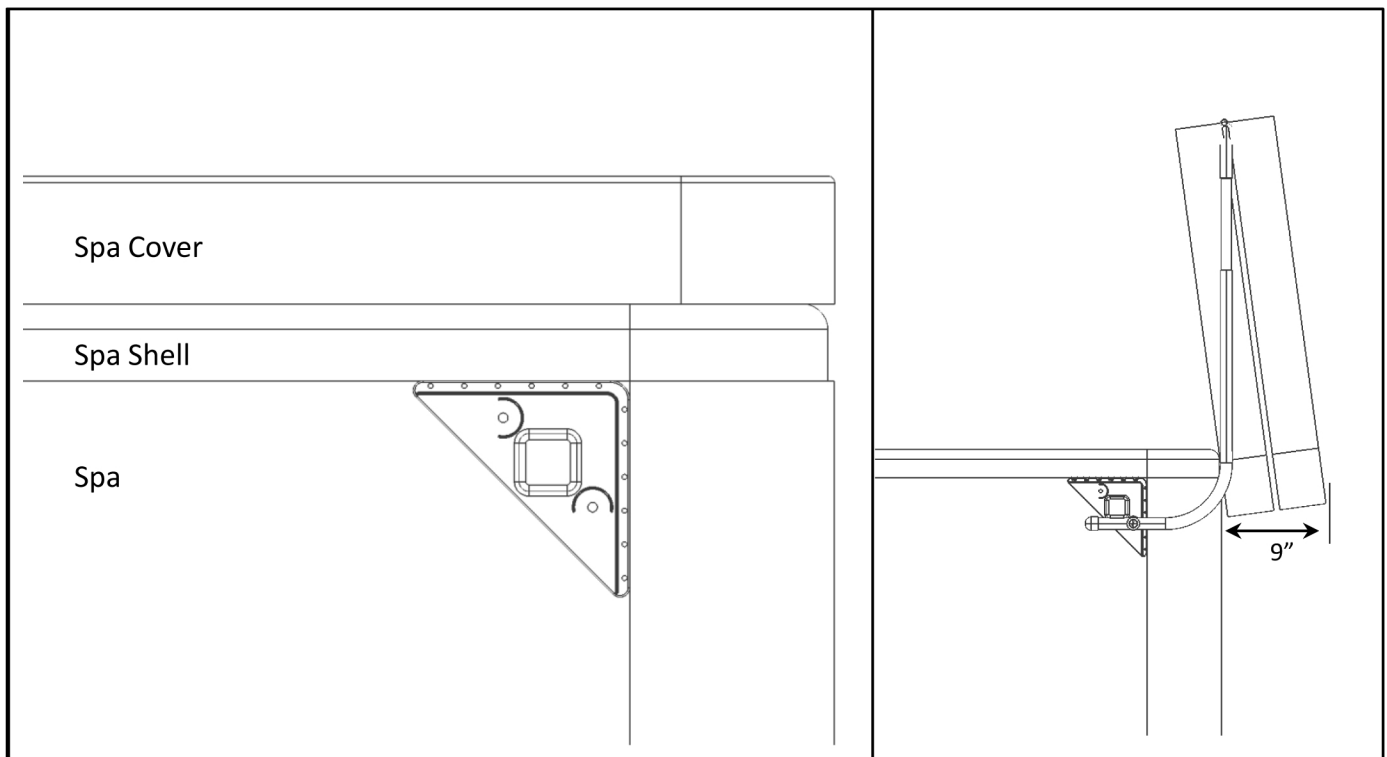

**Figure 2**
2. Position the spa cover (in the closed position) on the spa, making sure that all four corners are properly positioned and square on the spa. See Fig 2.